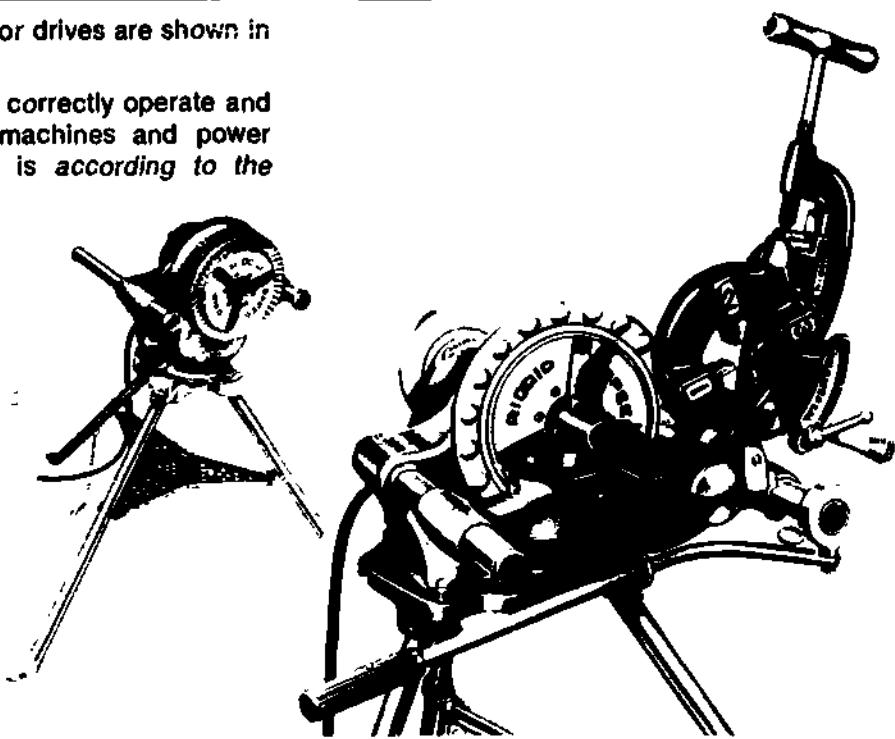

Figure 1-56. Portable Power Vises
c) A few of the power vises or drives are shown in Figures 1-56 and 1-57.